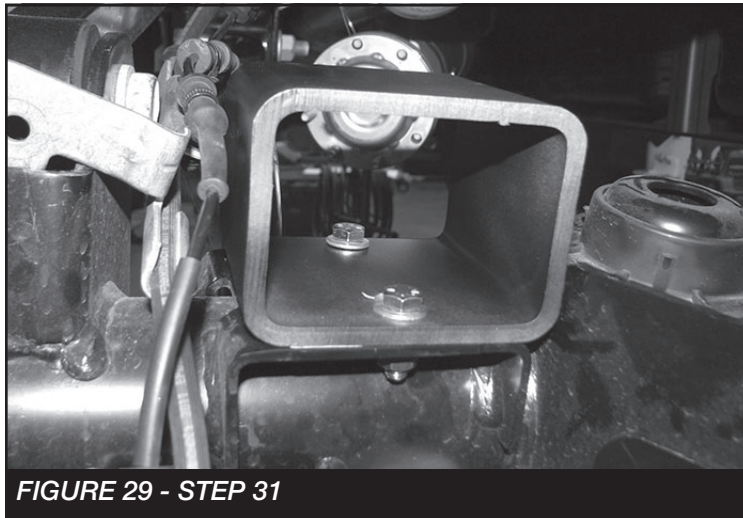

FIGURE 29 - STEP 31
31. Install both FT50724 (Rear bumpstops) onto the factory bumpstop pad using the factory holes on the axle pad with supplied 5/16 x 1" hardware. Torque to 25 ft-lbs **SEE FIGURE 29.**